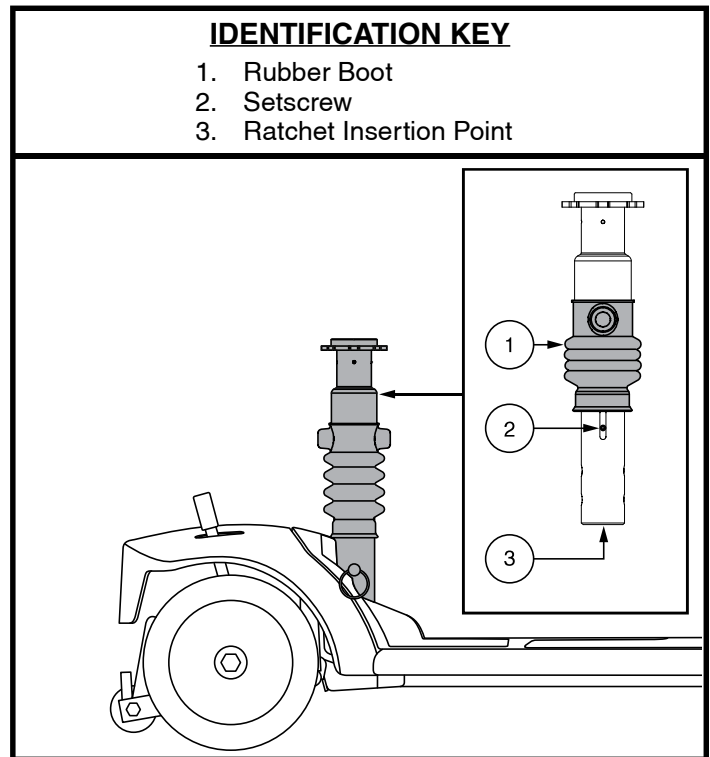

Figure 27. Seat Suspension Adjustment
The seat post acts as a shock absorber and can be adjusted for different degrees of ride comfort. Use the setscrews that are visible through the adjustment window on the side of the post as a guide when making adjustments. Slide the rubber boot towards the top of the post to expose the setscrews. See figure 27.
3. Insert a 13 mm socket with an extension into the bottom of the post. See figure 27.